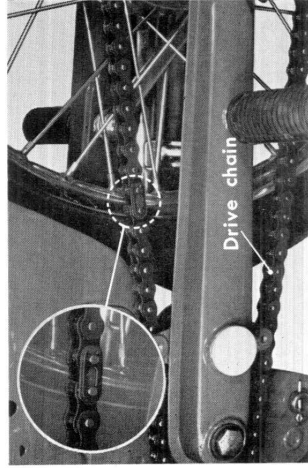

Figure 4-44. Disconnecting chain
- (1) Remove the change pedal.
- (2) Remove the left crankcase cover.
- (3) Remove the chain case lower half.
- (4) Rotate the rear wheel so that the drive chain joint is positioned at the specified location shown in Fig. 4-44 and then disconnect the drive chain by removing the joint clip. (Fig. 4-44)